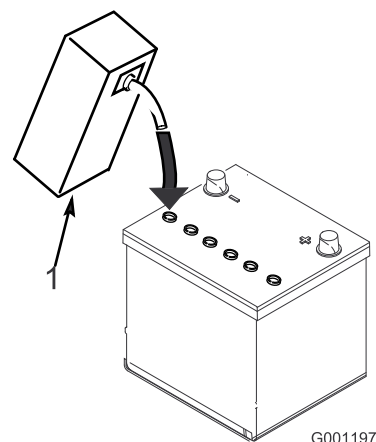

Figure 6
3. Carefully fill each cell with electrolyte until the plates are covered with about 6 mm (1/4 inch) of fluid (Figure 6).
4. Allow approximately 20 to 30 minutes for the electrolyte to soak into the plates. Fill as necessary to bring the electrolyte to within about 6 mm (1/4 inch) of the bottom of the fill well (Figure 6).